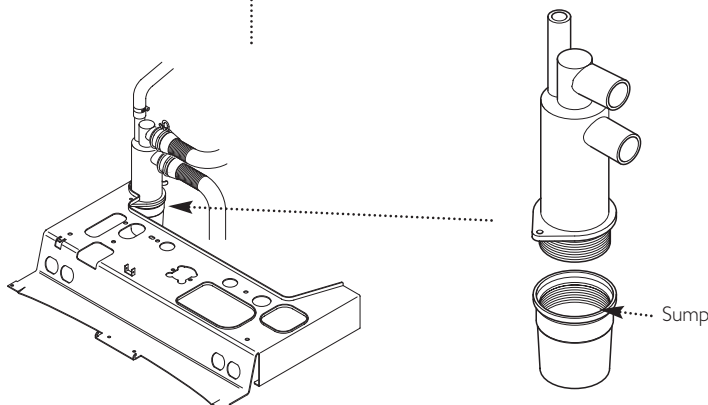

Fig. 71
7. Unscrew the sump from the bottom of the condensate trap assembly (Fig. 71).